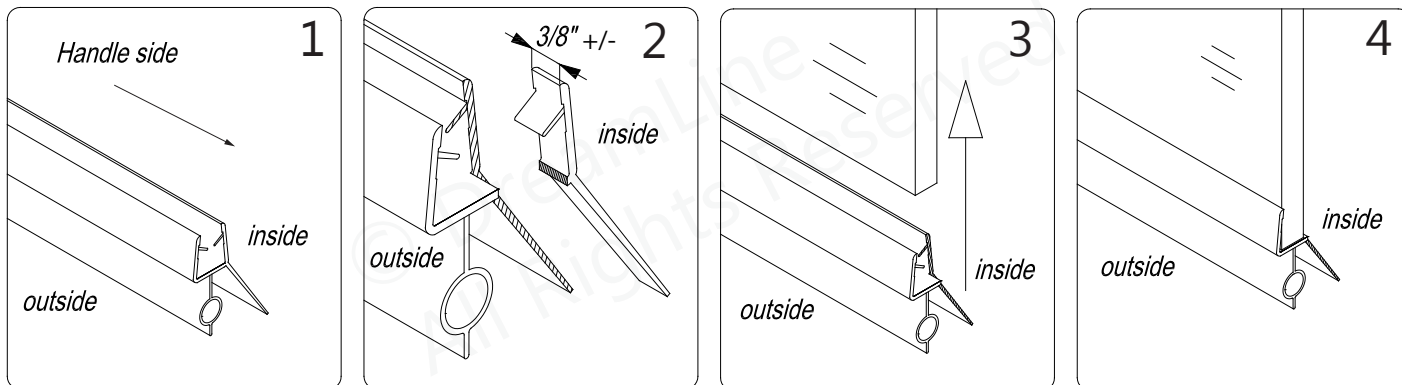

Fig 10
10. Measure the bottom of the **Door Glass (#02)** from end to end to determine the actual width. Using a razor knife, cut the **Bottom Sweep Vinyl (#13)** to the ewidth of the door glass. Optional: close the door and mark the sweep where it overlaps the strike vinyl; then notch approximately 3/8" off of the inner side of the **Bottom Sweep Vinyl** as shown in **Fig. 16.2**. Press the **Bottom Sweep Vinyl** tightly onto the bottom edge of the **Door Glass (#02)**. (**Fig 10**)